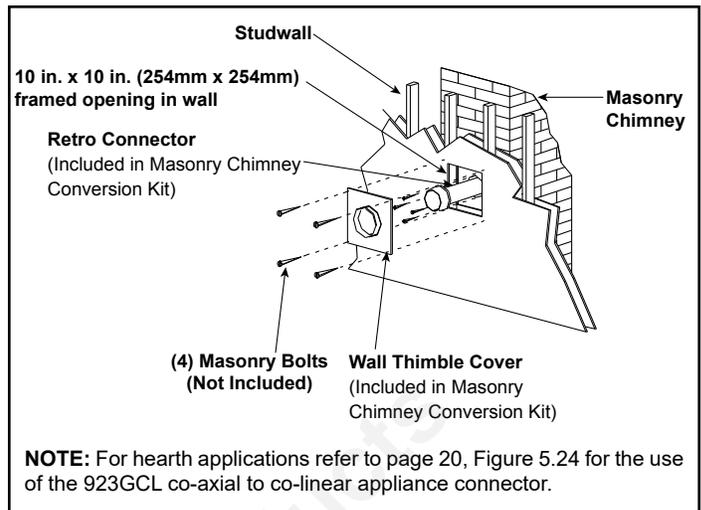
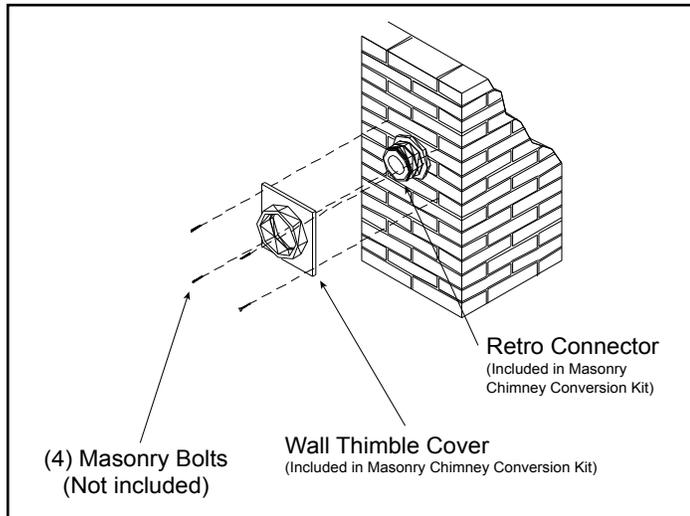

Figure 5.28
Figure 5.33
2. Once the center point of the penetration has been determined, cut a 6 in. (152 mm) diameter hole in the masonry. If the hole is too large, the retro connector might not mount properly; if the hole is too small, the appliance might starve for intake air. If there is a frame wall in front of the masonry wall, cut and frame a 10 in. (254 mm) square opening in the wall (centered around the 6 in. (152 mm) masonry opening). If there is sheet rock only (no studs) in front of the masonry the 10 in. (254 mm) opening is still needed, but does not need to be framed. If the hole is framed a round support box/wall thimble is required. This allows the retro connector to mount directly on the masonry and provide the correct clearances to combustibles (Figure 5.28).
8. Secure the top adaptor to the flashing. Use three sheet metal screws through the side of the top adaptor into the flange on the flashing (Figure 5.28). Twist lock the high wind termination cap on to the top adaptor.
- Slide wall thimble cover over retro connector and secure with masonry bolts (Figure 5.33). If you have a framed wall in front of the masonry, use wood screws to mount wall thimble cover to framed wall, over retro connector and 10 in. (254 mm) square framed opening (Figure 5.28). If needed, add a section of direct vent pipe to the retro connector in order to extend through the opening in the wall thimble cover.